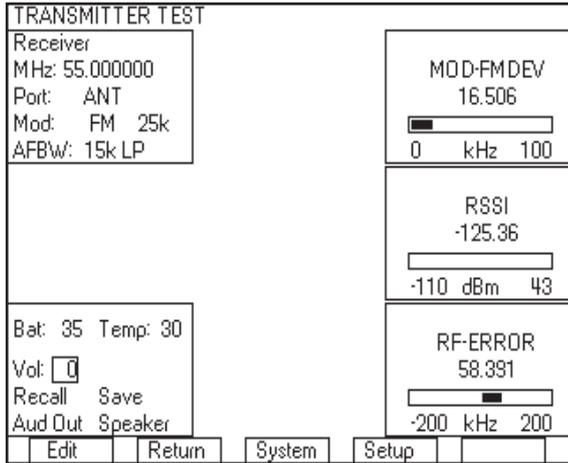

Figure 4 - TRANSMITTER TEST screen
11. Press the Return softkey. Now the TRANSMITTER TEST screen should look like Figure 4.